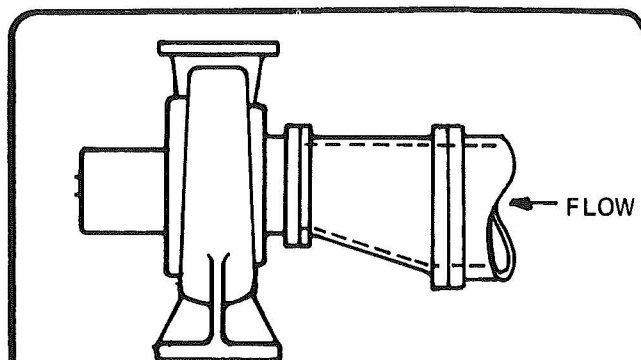

FIGURE 3
2. In horizontal piping leading to the pump only eccentric-reducers should be used (See Fig. 3 and 4).